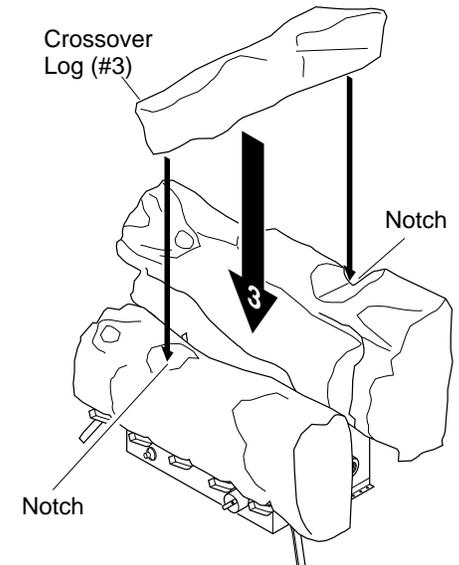

Figure 37 - Installing Crossover Log
- Place the crossover log (#3) on top of the back log and front log. Make sure the crossover log is seated into the notches on top of the back and front logs (see Figure 37).